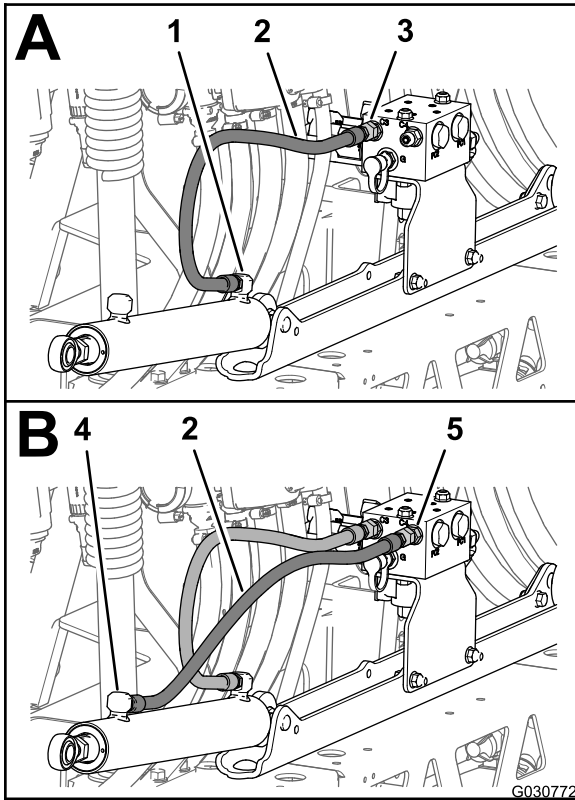
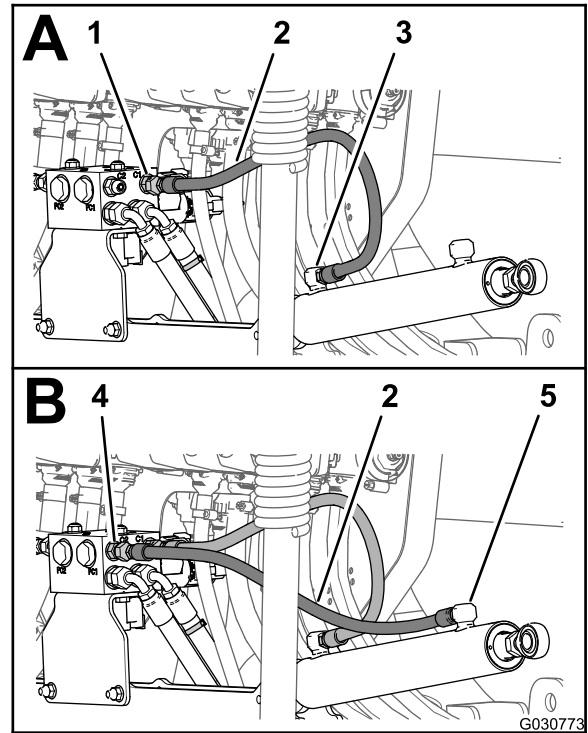

Figure 95
Figure 96
1. Loosely assemble a new hydraulic hose (1/4 x 24-3/4 inches) between the extend port of the left boom-lift cylinder and port C3 of the boom-lift manifold (Figure 95).
2. Loosely assemble a new hydraulic hose (1/4 x 24-3/4 inches) between the retract port of the left boom-lift cylinder and port C4 of the boom-lift manifold (Figure 95).
3. Loosely assemble a new hydraulic hose (1/4 x 24-3/4 inches) between the extend port of the right boom-lift cylinder and port C1 of the boom-lift manifold (Figure 96).
4. Loosely assemble a new hydraulic hose (1/4 x 24-3/4 inches) between the retract port of the right boom-lift cylinder and port C2 of the boom-lift manifold (Figure 96).
5. Torque the hose fittings at the extend and retract ports of the lift cylinders (Figure 95 and Figure 96) to 21 to 26 N·m (15 to 19 ft-lb).
6. Torque the swivel nuts of the hoses at the boom-lift manifold (Figure 95 and Figure 96) to 24 to 30 N·m (17 to 22 ft-lb).